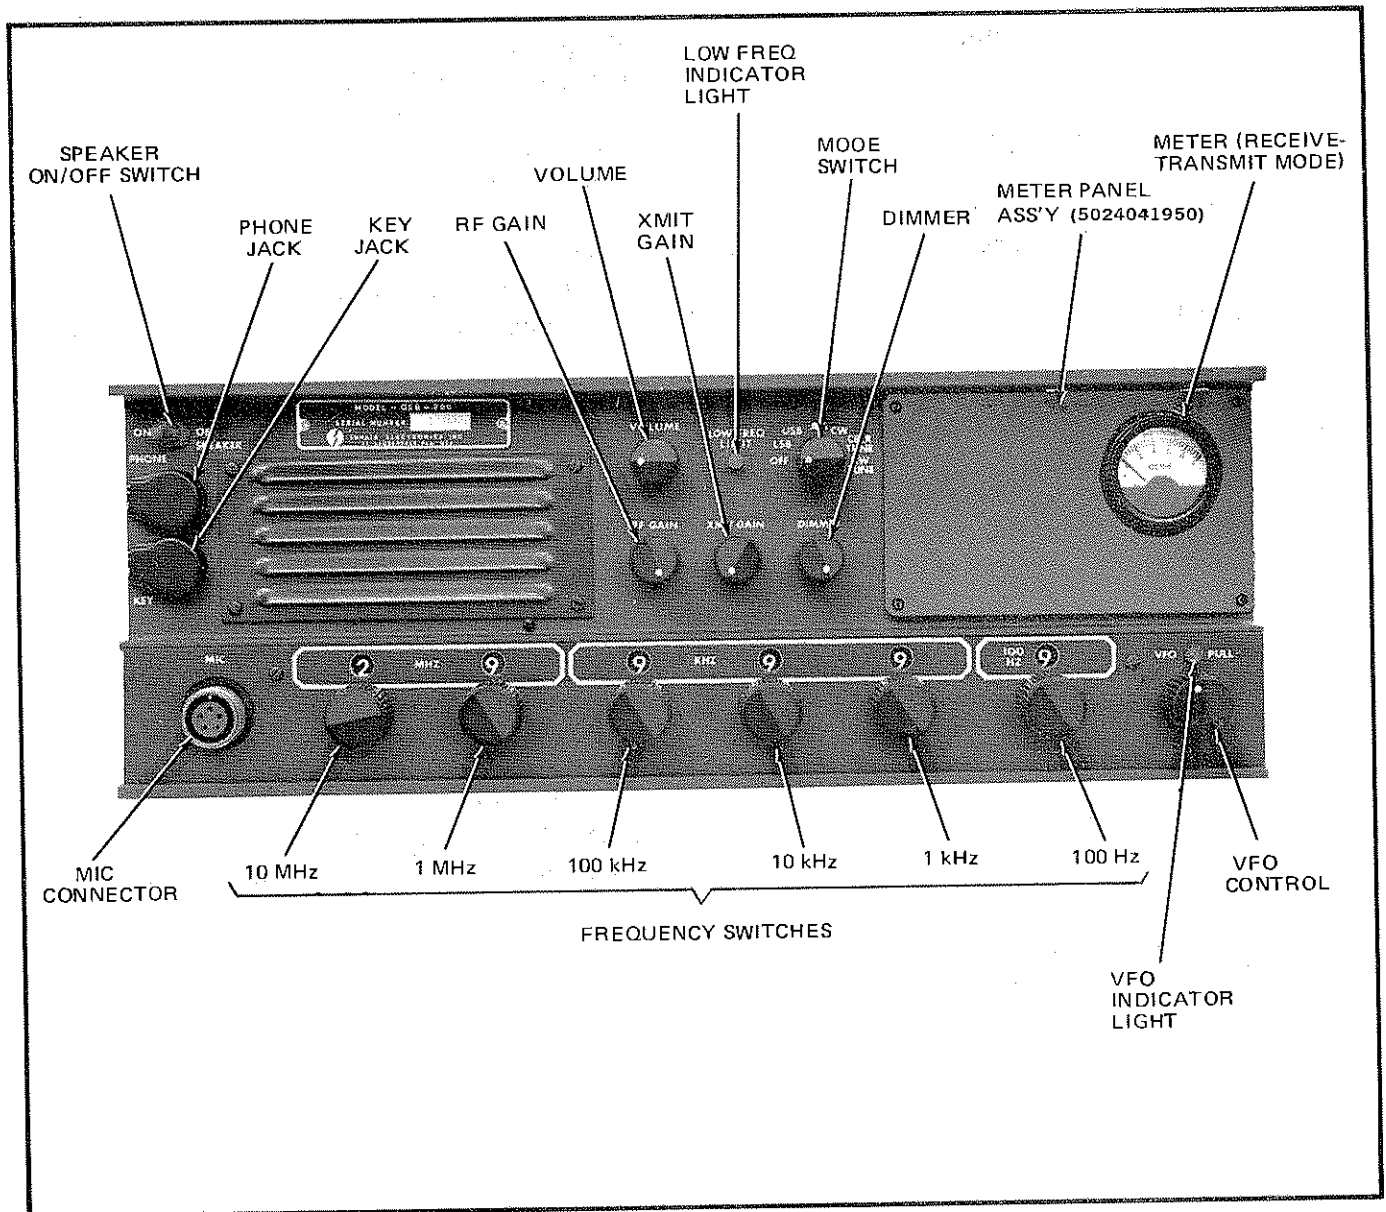

Figure 3.1 GSB-900, Transceiver Front Panel
3.2.1 Description of all controls, indicators and connectors located on the front panel of the GSB-900 Transceiver starts on page 3-2. They are illustrated in Figure 3.1 below.